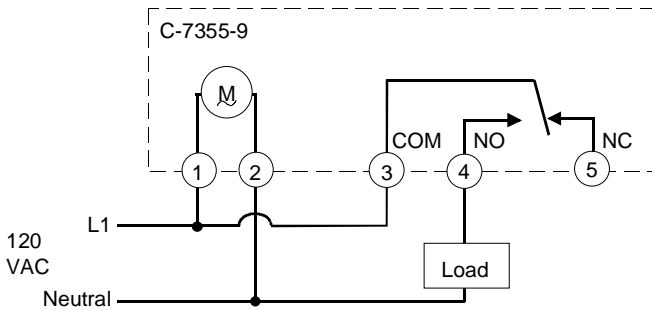

Figure 10: Typical C-7355-9 Line Voltage Wiring Diagram
1. Wire the time clock according to national and/or local electrical codes. Terminals will accept 10 to 24 AWG copper wire. See Figures 10 and 11.